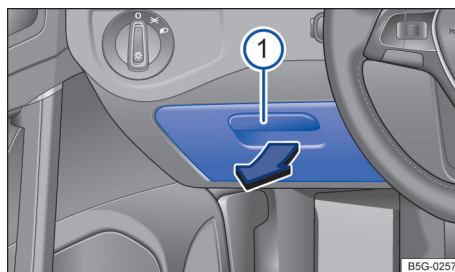

Fig. 126 On the driver side: Storage compartment.
- To open: Pull the handle → fig. 126 1 in the direction of the arrow.